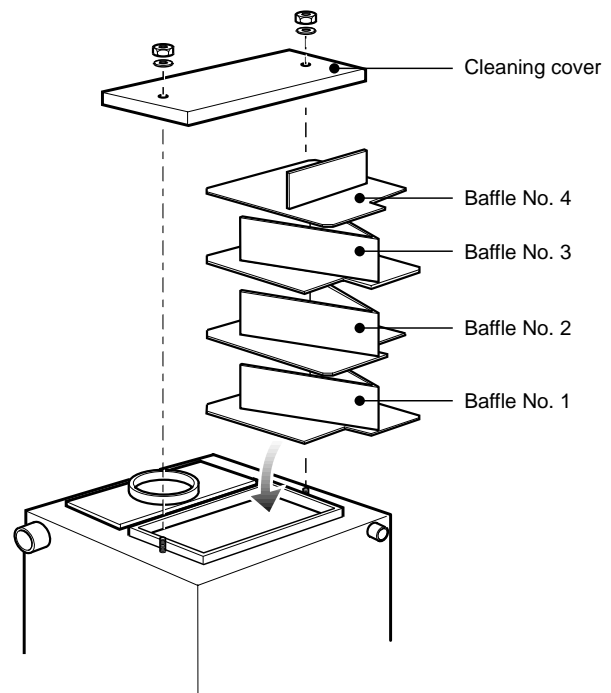

Fig. 33 - Combi 70 baffle positions
See Fig. 33
- 6 Replace the baffles, ensuring they are correctly fitted. See Fig. 33.
**Note (Combi 70):** Baffle plate one is at the bottom, then two, then three and four at the top (see Fig. 33).
- 7 Replace the cleaning cover, securing it in position with the two nuts and washers previously removed. See Fig. 33.